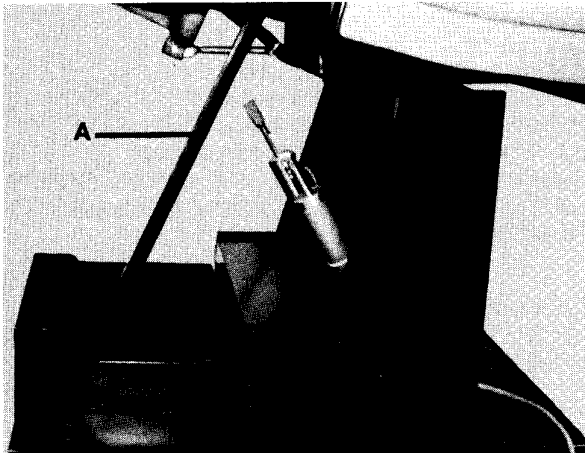
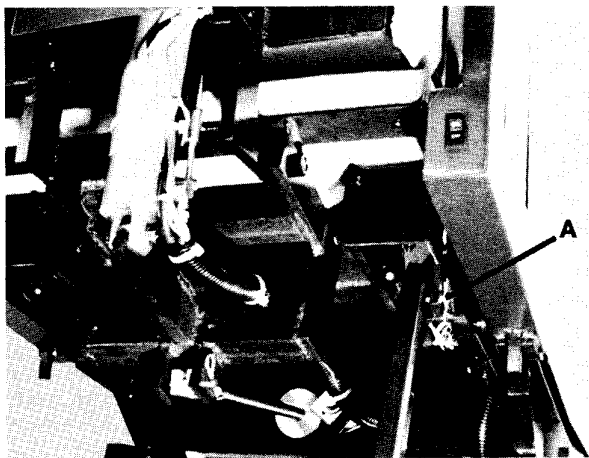

Fig. 20
Fig. 21
- 3) Have the two assistants rotate the back section upward enabling the prop, Item A, Fig. 20 (See Special Tools on Page 35) to be attached to the back section.
- 4) Attach the prop to the back section by inserting a clevis pin through the clevis support on the back section and through the hole in the end of the prop and then installing a cotter pin. See Pt. A, Fig. 21.
- 5) With the end of the prop resting against the footstep channel as shown in Fig. 20, slowly lower the back section until the full weight is supported by the prop.
- 10) With the two assistants rotating the back section upward, remove the prop, Item A, Fig. 20 by removing the cotter pin and clevis pin at Pt. A, Fig. 21.